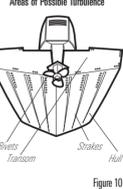

Figure 10
- As the boat moves through the water, turbulence is generated by the weight of the boat and the thrust of the propeller(s) - either clockwise or counter-clockwise. This turbulent water is normally confined to areas immediately aft of ribs, strakes or rows of rivets on the bottom of the boat, and in the immediate area of the propeller(s). Clockwise propellers create more turbulence on the port side. On outboard or inboard/outboard boats, it is best to locate the transducer at least 15" to the side of the propeller(s) (Figure 10).
- The best way to locate turbulence-free water is to view the transom while the boat is moving. This method is recommended if maximum high-speed operation is a high priority. If this is not possible, select a location on the transom where the hull forward of this location is smooth, flat and free of protrusions or ribs (Figure 10).